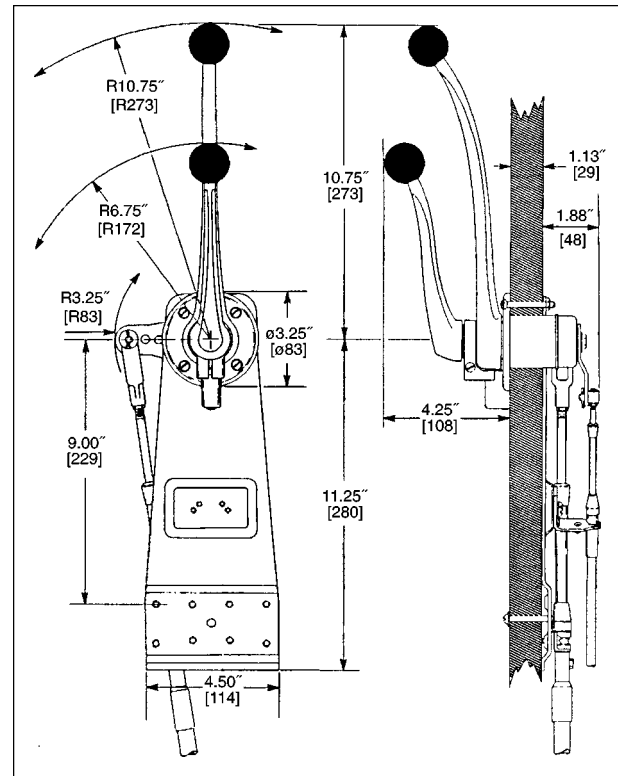

Figure 1
1. Adequate clearance must be provided for the Control Head Hand Levers to move through their full ranges (approximately 90°). See Figure 1.